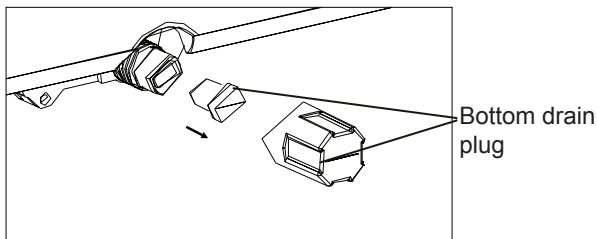

Fig.23
- When the water level of the bottom tray reaches a predetermined level, the unit beeps 8 times; the digital display area shows "PI". At this time the air conditioning/dehumidification process will immediately stop. However, the fan motor will continue to operate (this is normal). Carefully move the unit to a drain location, remove the bottom drain plug and let the water drain (Fig.23). Re-install the bottom drain plug and restart the machine until the "PI" symbol disappears. If the error repeats, call for service.